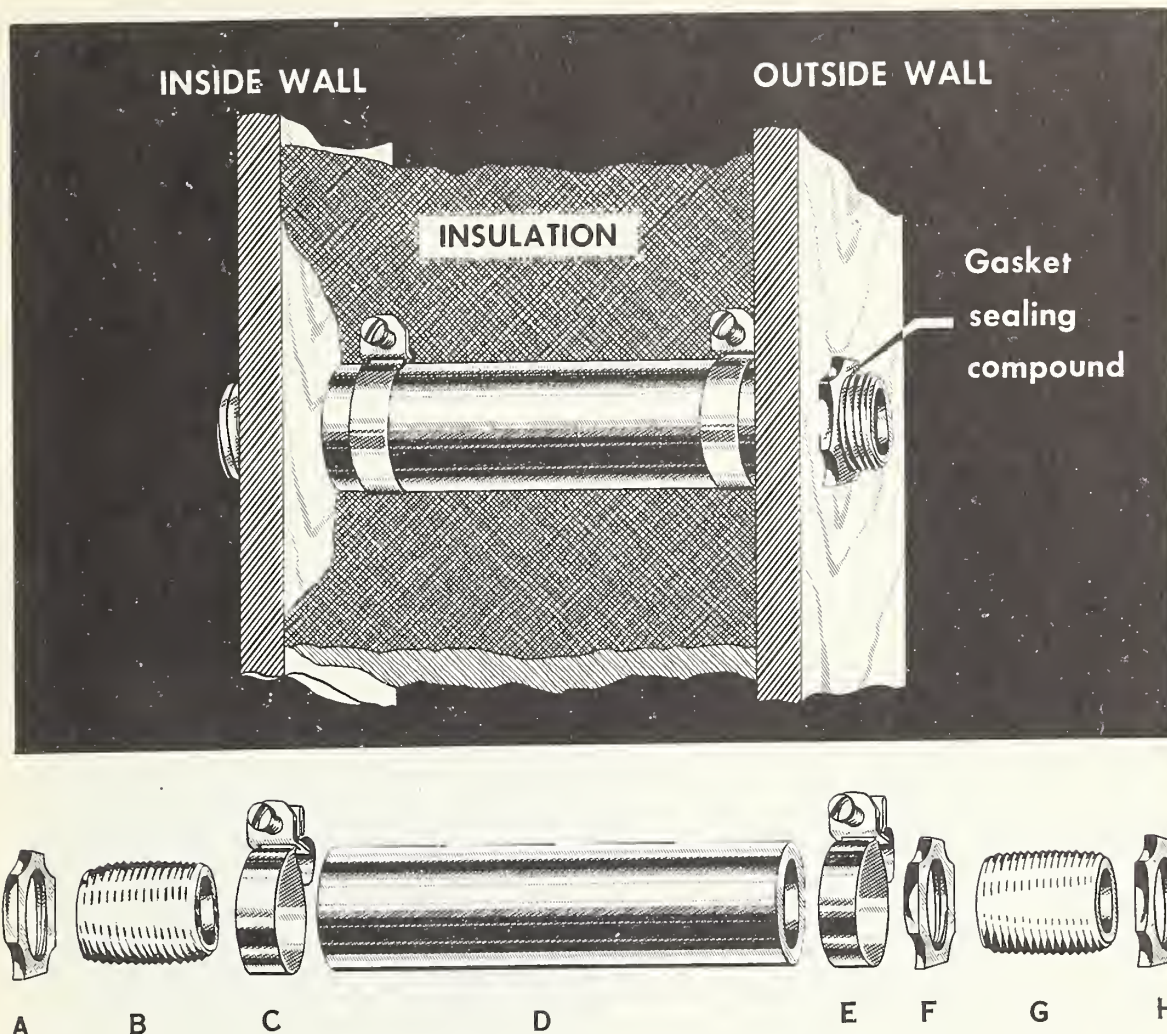

Figure 6.--Details of wall duct.
Referring to figure 6, turn a locknut (F) as far as possible on one end of the pipe nipple (G). Put gasket cement (calking compound) on the threads of the nipple over which the locknut has passed and on one end of the other nipple (B). Force the cement-covered ends into the ends of a 6-inch hose (D) and clamp in position with hose clamps (C) and (E).